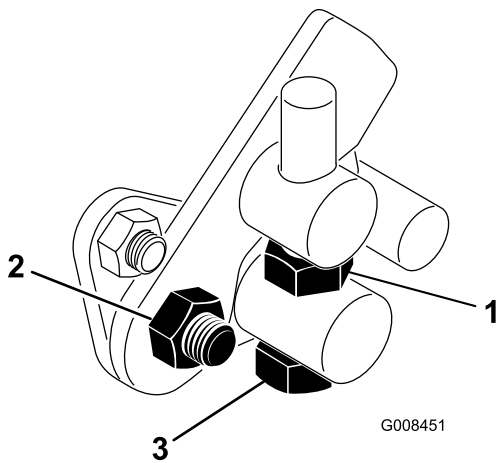

Figure 51
1. Loosen the jam nut on the trunnion bolt (Figure 51).
4. Tighten the jam nut on the trunnion bolt and the nut on the pedal pivot to lock the adjustment (Figure 51). Check the adjustment and adjust as required.